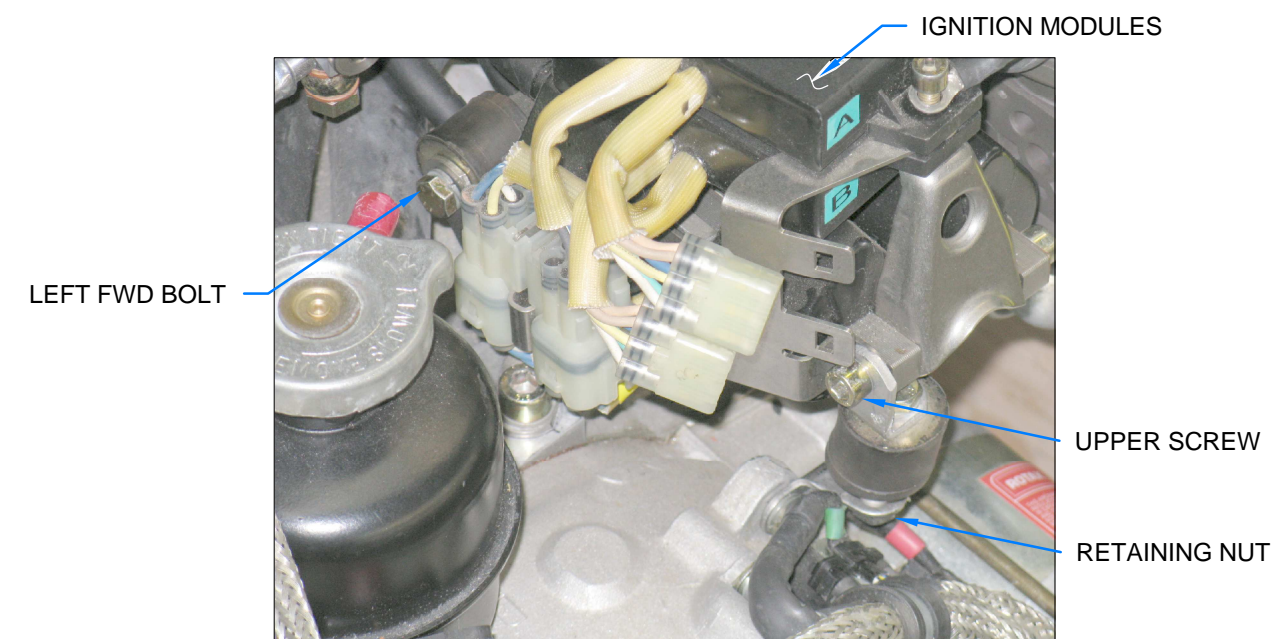

FIGURE 4: DISCONNECTING IGNITION MODULE
Step 5: Remove the left forward mounting bolt from the igniton modules. See Figure 4.